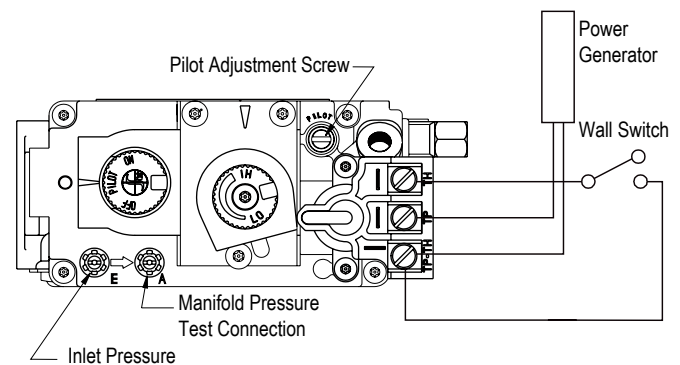

Figure 33. 'Pilot' Adjustment on the Vista 38 gas valve.
1. Locate Pilot Adjustment Screw. (See **Figure 33**.)
Pilot won't ignite	Disconnect remote wires and try to light pilot. If pilot now works, remote connections are faulty. Check wiring diagram Figure 33 .
Main burner will not light	1. Check wiring (see Figure 33). 2. Check wall switch for proper connection.